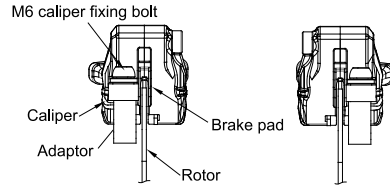

FIG.3
- Hold the lever after operating several times, make the calipers (one or two) clamp the disc and adjust the position to the middle of the disc (such as FIG.3), tighten M6 caliper fixing bolts (2 pcs) at a torque of 8~10 Nm(71~89 in. lbs).